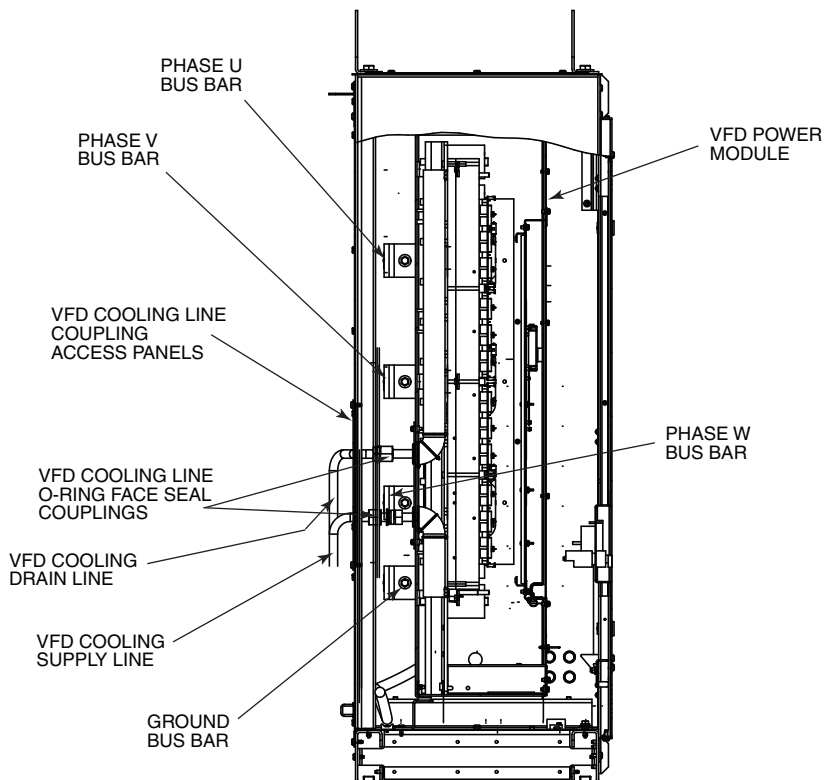

Fig. 24 — 900A or 1200A VFD Refrigerant Cooling Lines
7. Remove the access panels on the back of the VFD enclosure and disconnect the VFD cooling lines (Fig. 24). Cover all openings.
8. Install O-rings on VFD refrigerant connections using silicone grease. Using two wrenches, tighten connector to 27 to 33 ft-lb (37 to 45 N-m). See Fig. 24.